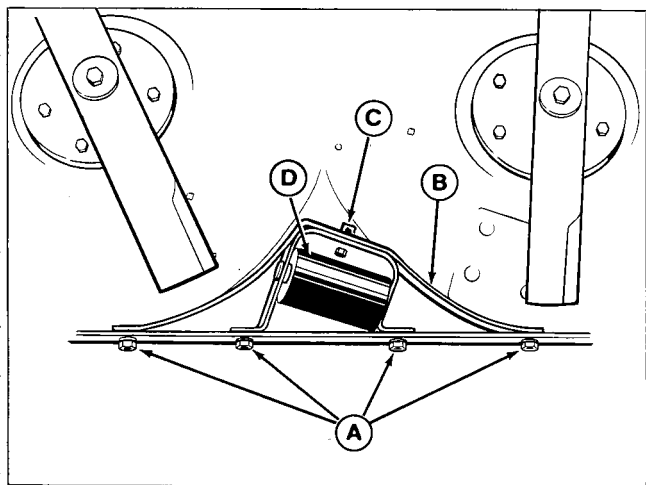

Figure 3. Baffle Positioned in Mower
7. Position the baffle assembly in the mower as shown in figure 3. Align the four mounting holes with the four holes in the rear side of the mower deck. If the "L" bracket aligns with a bolt already installed, perform step "a". If there is no hole in the deck for the "L" bracket, perform step "b".
8. For mowers with mfg. no. 1690274 or 1690627 only, reinstall the support assembly with the eight carriage bolts, lockwashers and nuts. Be sure to install bolts from bottom. Install the front two bolts first. To install the rear most bolts, the baffle or roller will need to be removed for clearance. Do not remove the roller which holds the "L" bracket (C, figure 3) to the deck. After installing the support assembly, reinstall any removed parts.